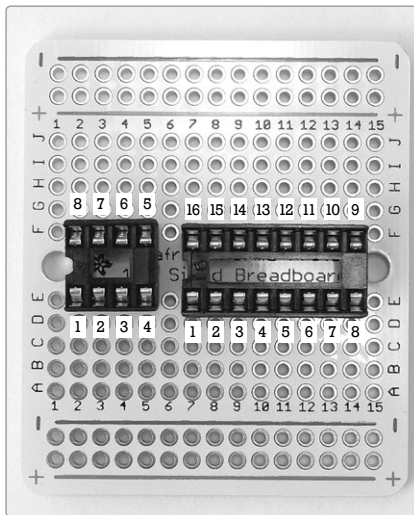

FIGURE 16-10: The IC sockets are in place. Pins are numbered counter-clockwise from the lower-left pin of each socket.
Step 9 First, mount the IC sockets so that both straddle the PCB's center divide, as shown in Figure 16-10. The 8-pin socket runs from 2F to 5F above the divide and 2E to 5E below. Leave one column open and then place the 16-pin socket from 7F to 14F and 7E to 14E. If your sockets have notches like those in Figure 16-10, place the notches to the left; that's just good form. Bend out the top left and bottom right legs on both sockets to hold them in place on the PCB. Then flip the board and solder all the pins to their solder pads. Take care not to create solder bridges between any adjacent pins.